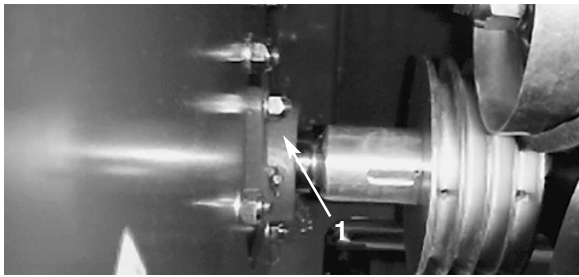

Figure 35
7. Loosen the bearing's set screws (Fig. 35)